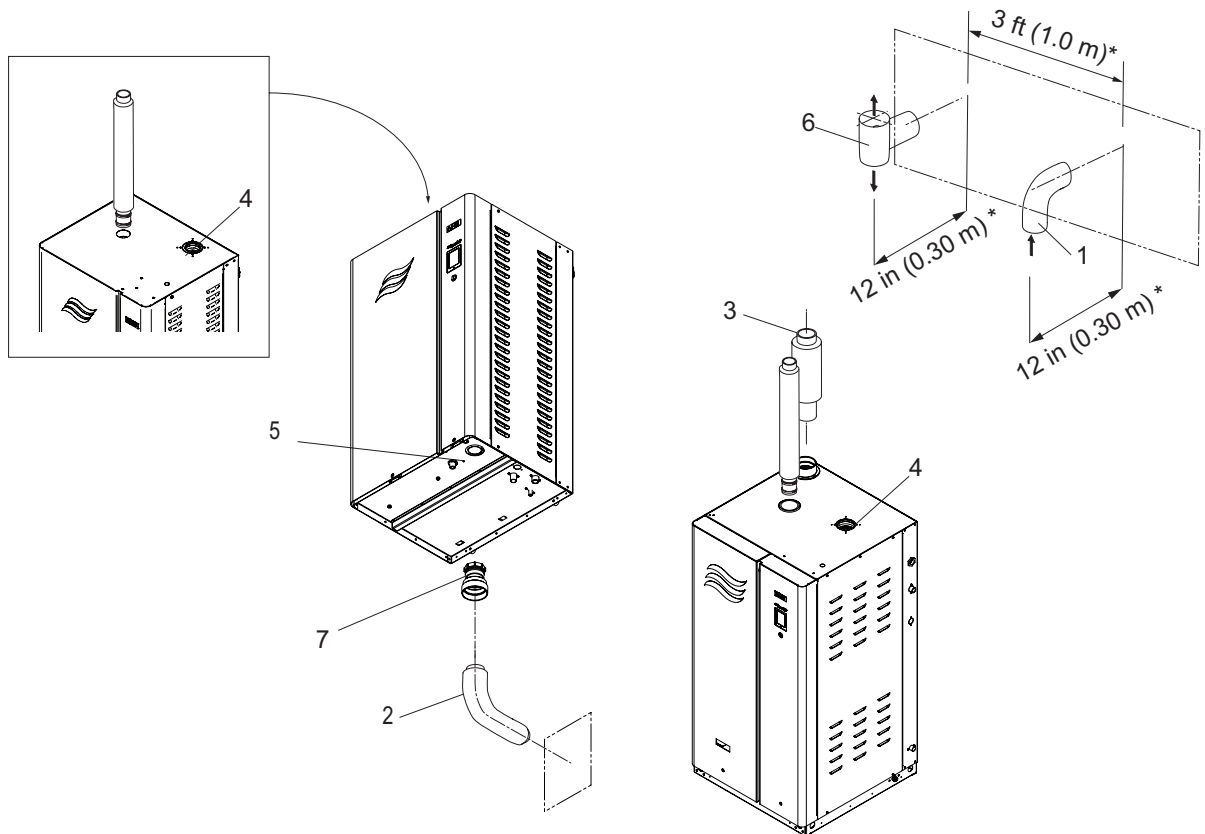

Figure 18: Sealed Combustion Connection (compact shown left)
Note: Condaire requires installing an elbow (fitted with a screen) at the intake air inlet on all Nortec GS 150-600 (full size) units to prevent dirt and debris from being drawn into the combustion chamber. Seal the connection with silicone sealant. Keep the area around the air intake clear of all obstructions. Refer to Figure 18. Refer to Table 15 on page 37 for outside diameter of elbow.
Figure 18 shows the sealed combustion connection for the compact and full-size Nortec GS humidifiers.
- An intake (elbow) terminal must be installed on the outside termination of the air intake vent, with the elbow facing down – refer to Figure 18 on page 37. The location and spacing between the air intake terminal and exhaust vent terminal must comply with all local and national regulations, with at least a minimum spacing of 3 ft (1 m) between them.